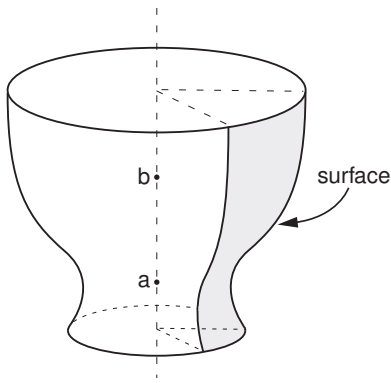

Figure 2: Three-dimensional circumferential smoothing.
Data line to define smoothing on regions of surfaces that correspond (or nearly correspond) to a surface of revolution (see Figure 2):
7. Global X-coordinate of point *b* on the approximate axis of revolution for the surface (see Figure 2).